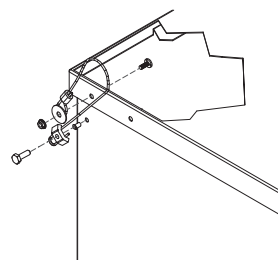

Figure 5
11. After installing the hinge kit to the fan and roof curb, attach the stop cable to both sides of the ventilator base as shown in Figure 5.
12. Attach the loose end of the stop cable to roof curb and ventilator base with 1/4-20 x 3/4 inch weldbolt and 1/4-20 nut per side, see Figure 5.